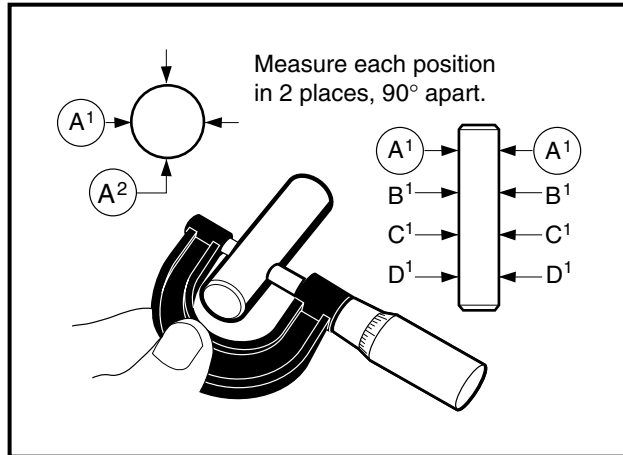

Figure 13-56 Measure Piston Pin O.D.
1. Using a micrometer, measure the outside diameter of the piston pin at several points along its length (**Figure 13-56, Page 13-29**).